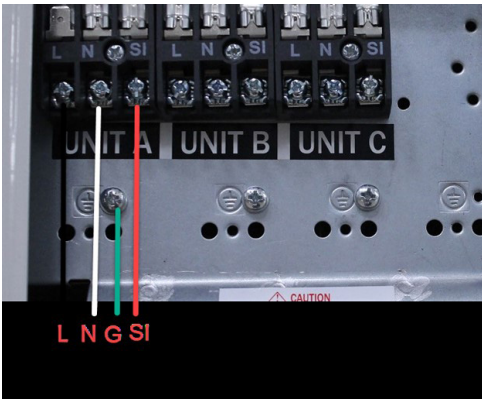

Figure 8.2
2. Run the communication cable from the A-zone, through the appropriate hole and connect the wires to the outdoor unit matching the wires to the terminal block. The wire marked L goes to L, wire N goes to N and wire SI goes to SI on the terminal block. Then the ground wire goes to the metal plate below marked ground. (See Figure 8.2 on page 27)